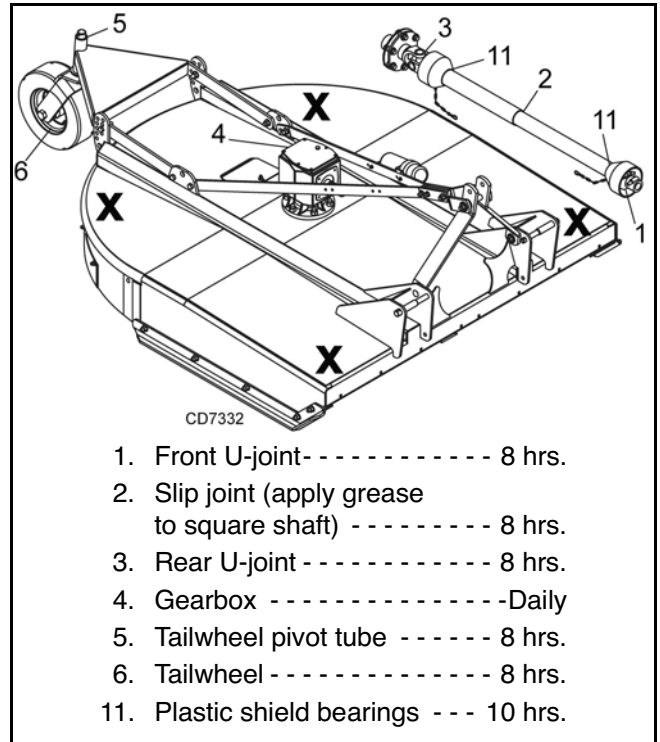

Figure 11. Jackstand Placement & Lubrication Points
1. Jackstands with a load rating of 1000 lbs or more are the only approved blocking device for this cutter. Install a minimum of four jackstands (shown by Xs in Figure 11) under the cutter before working underneath unit.
See Figure 11 for lubrication points and frequency or lubrication based on normal operating conditions. Severe or unusual conditions may require more frequent lubrication.
■ **If blade pin (1) is seized in crossbar and extreme force will be needed to remove it, support crossbar from below to prevent gearbox damage.**
2. Raise cutter and block securely (see Figure 11).
3. Open blade access cover and align crossbar assembly (3) with blade access hole in the cutter frame. Remove cap screw (8) blade pin lock clip (7) keyhole plate (6) and shims (5 & 4). Carefully drive blade pin out of crossbar.